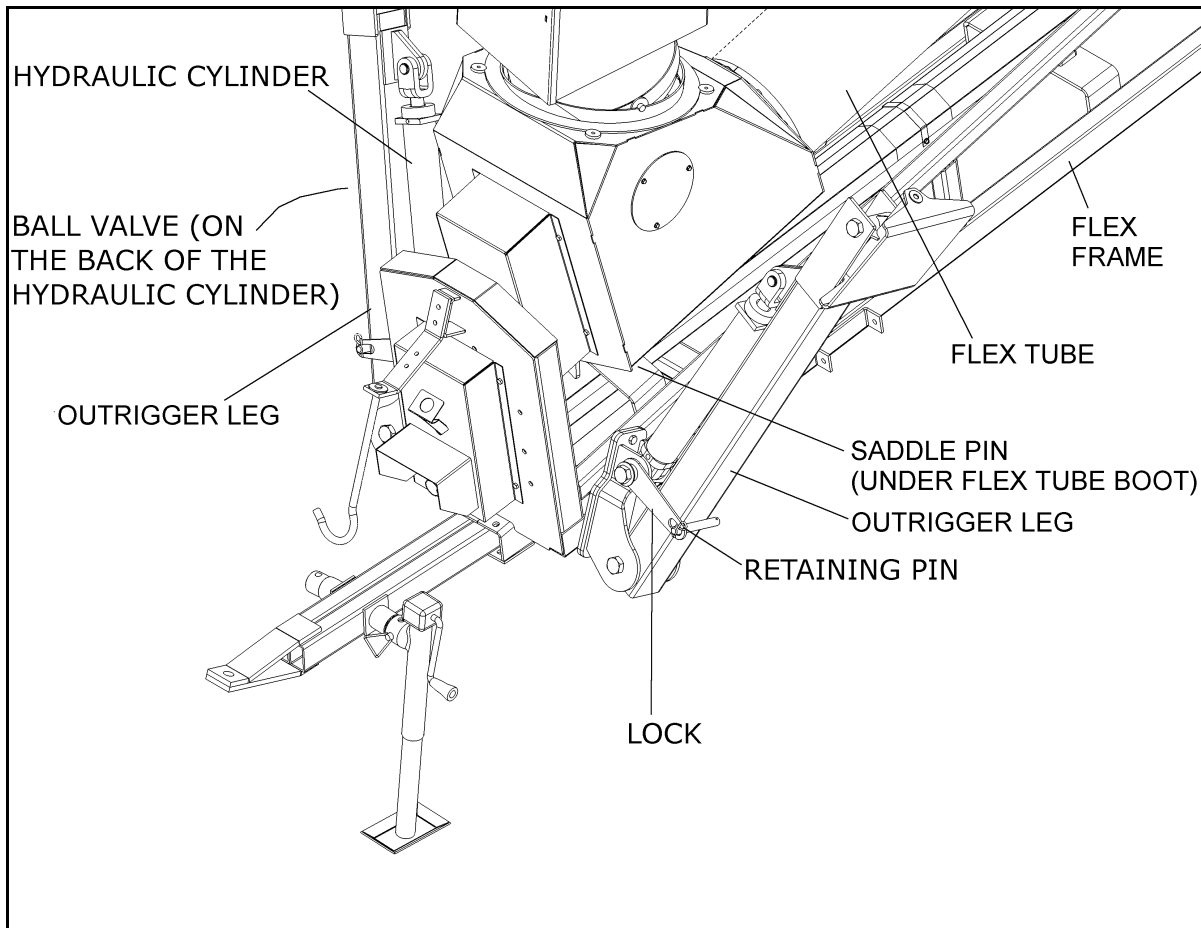

Figure 4.3
3. Check that the flex tube is locked in place with the saddle pin (Figure 4.3).
5. Outrigger legs are raised and locked in transport position (see Figure 4.3).
6. Lower outrigger legs by removing retaining pin and engaging tractor hydraulics. Close ball valve located on outrigger leg to secure legs once fully lowered (Figure 4.3).
10. Under the flex tube boot, rotate the saddle pin downwards to lock, this allows the flex tube to move during operation (Figure 4.3).